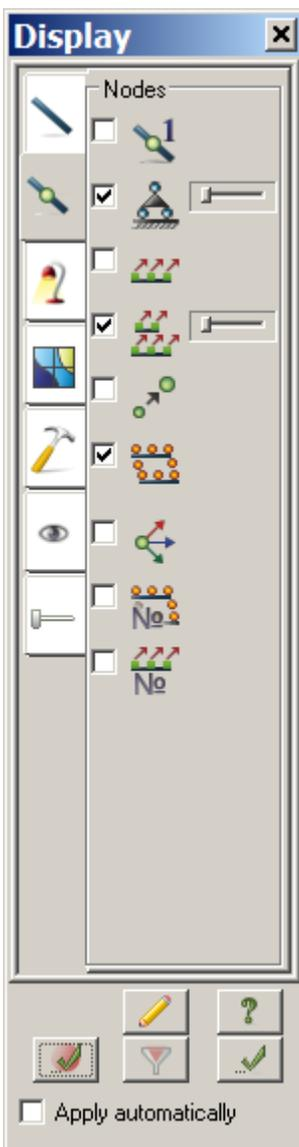

Figure 10.5 **Display** dialog box
- ⇒ In the **Display** dialog box (see Fig.10.5), select the **Node numbers** check box on the **Nodes** tab.